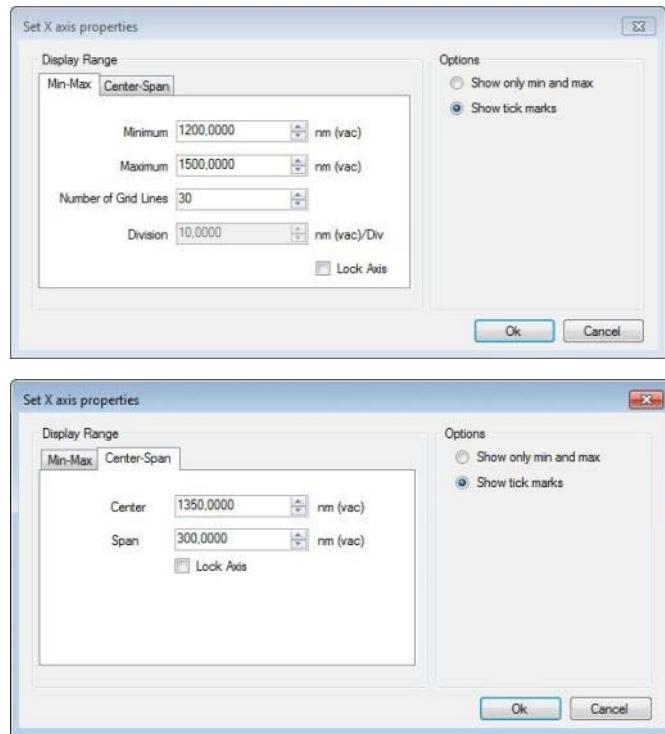

Figure 15 Axis Options Dialog Opened for the Horizontal Axis
The vertical axis can be set manually by clicking on the (primary or secondary) vertical axis itself. This will bring up a dialog box, (shown in Figure 15) in which the minimum and maximum value, division, center wavelength and span can be set.
- The range of the primary and secondary axis can be set individually by clicking on (the gray part of the axis which brings up the Axis Options Dialog (see Figure 15) for the selected axis notice that the grid density is always the same for the primary and the secondary axis. Changing the grid density on one axis will change the grid density on the other.
- The primary and secondary axes can be locked individually to any desired range by checking the “Lock Axis” check box in the Axis Options Dialog (see Figure 15).